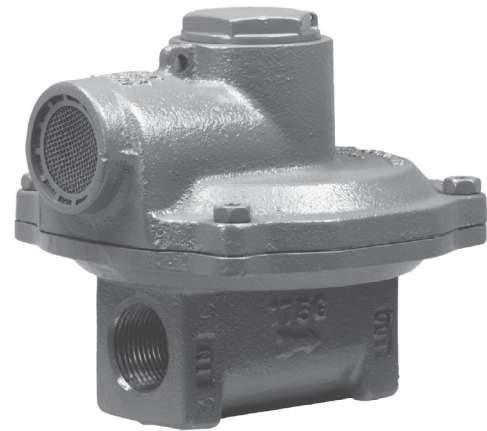

Figure 1. Type S402Y Pressure Reducing Regulator Assembly
6. If outlet pressure adjustment is necessary, monitor downstream pressure with a gauge during the adjustment procedure. To increase the outlet pressure, the adjusting screw (key 12, Figure 1) must be turned clockwise. This requires removal of the closing cap (key 11, Figure 1). To reduce the outlet pressure setting, turn the adjusting screw counter-clockwise. Do not adjust the spring to procedure an outlet pressure setting above the limit stamped on the regulator.